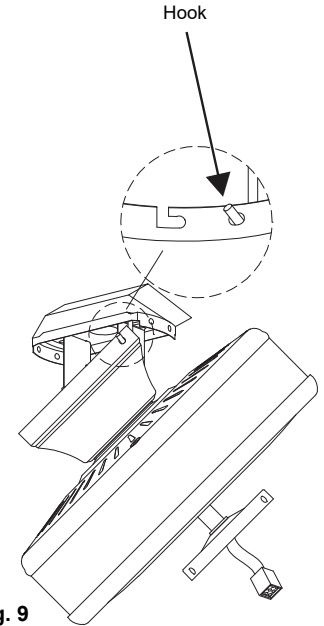

Fig. 9
Step 7. Hang the fan on the hook of the hanger bracket. Be certain that the canopy is fully locked into hook as shown in **Fig. 9**. This will allow you to make the electrical connections.